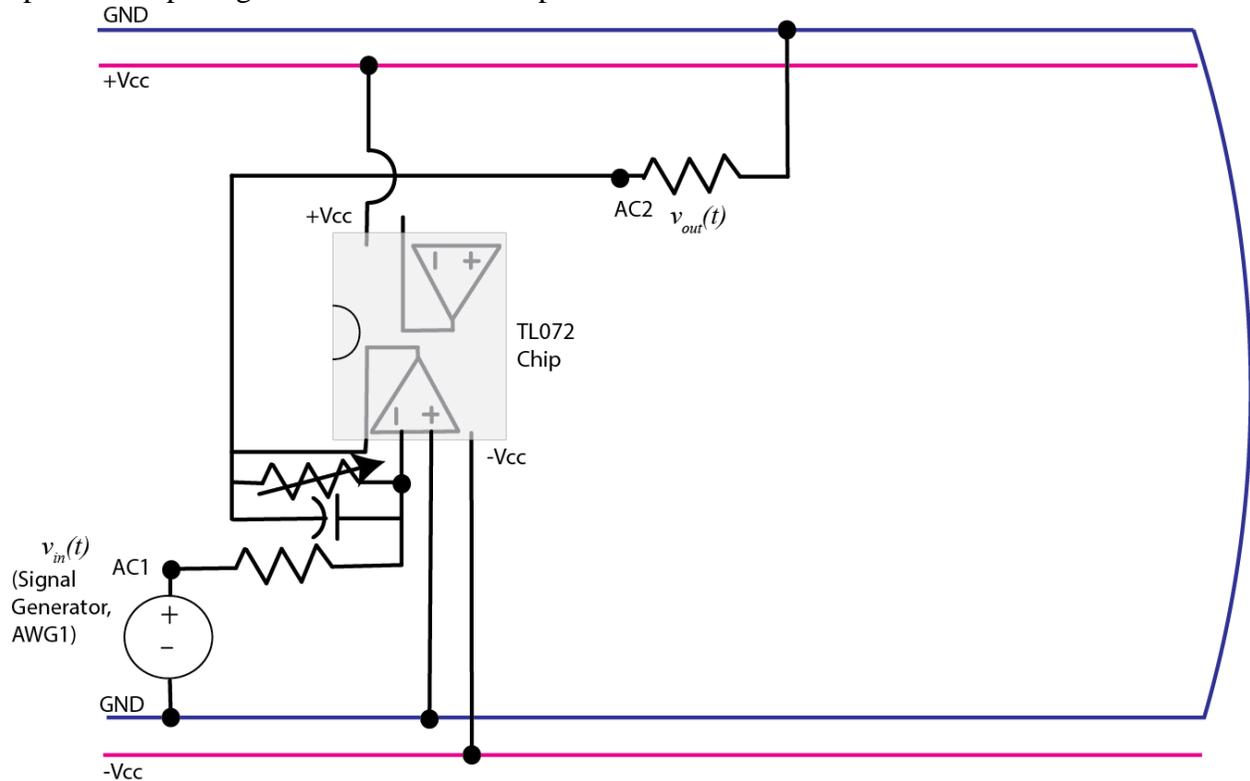

Figure 2. Lowpass filter.
1) Build the lowpass, shown in Figure 2. We have included a load resistor for measuring the output. The input to this circuit should be the signal generator, and the output should be the voltage across the load resistor. Set the input to a 10 Hz sine wave with an amplitude of 1 volt (peak to peak value of 2.0 volts) and 0 volt offset. Set the AC channels to **200 mv/div** (the signals will fill up the screen) and **20 ms/div**. Adjust the variable resistor so the input and output signals have the same amplitude.